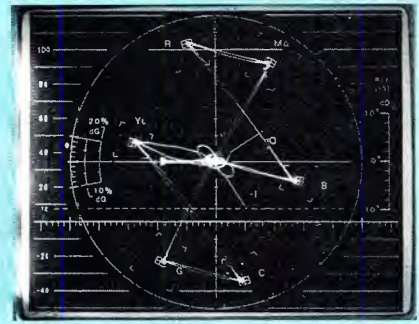

Figure 10. "VECT" and "SCH" provides both displays simultaneously, allowing normal vector monitoring while keeping a watch on SCH.
- "SCH" and "VECT" to display the normal vector representation and the sync dot at the same time (Figure 10).